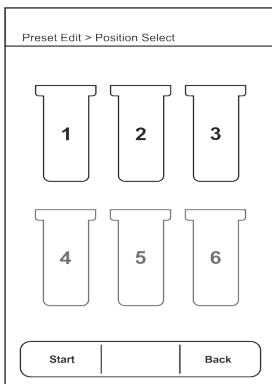

Fig. No. 26.2
d. **Position Selection** (Ref. Fig. No. 26.2)